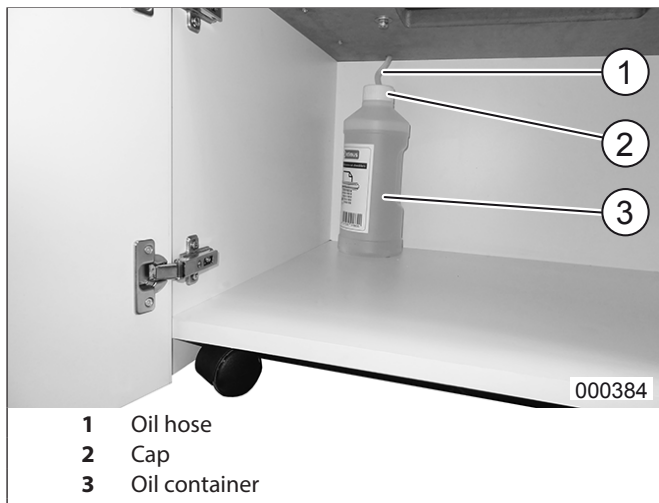

Fig.10 Oil container
If the control display  (Fig.5/7) flashes, this means that the oil container (Fig.10/3) is empty and must be replaced with a full container. The motor switches off.
3. Change the oil container (Fig.10/3). To do this, unscrew the cap (Fig.10/2).